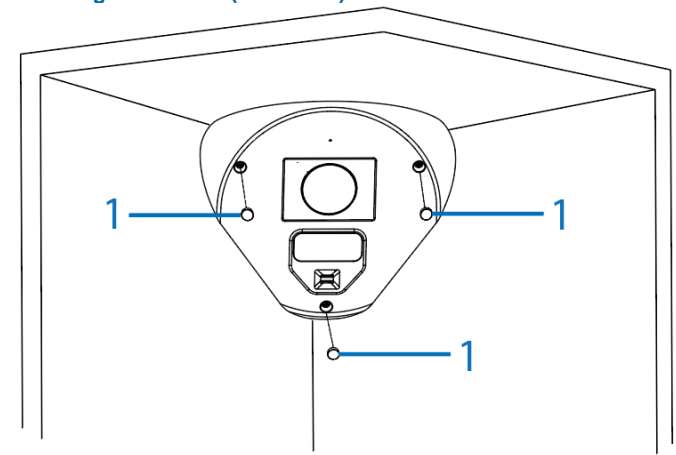

Figure 9
13. Insert the three rubber inserts (1) (Figure 9) into the three screw holes on the camera top cover to complete the installation.